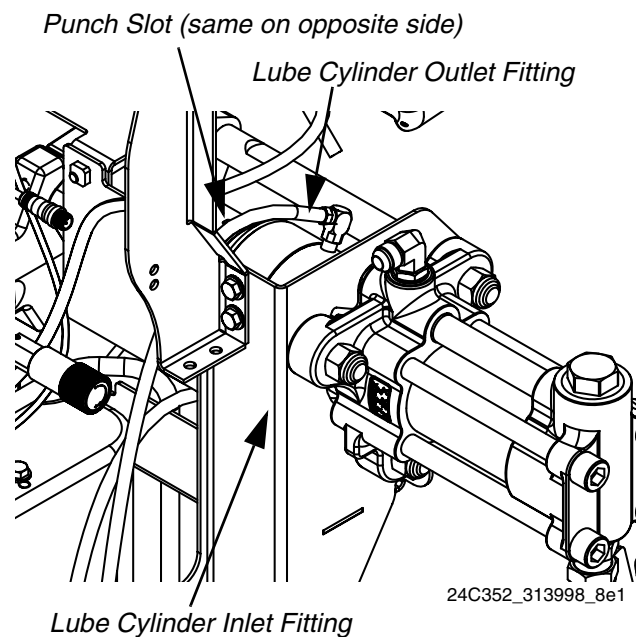

FIG. 5: Lube Cylinder, Viewed from Rear Left of Machine
3. Install lube cylinder inlet and outlet fittings. See FIG. 5. Apply thread sealant to threads.